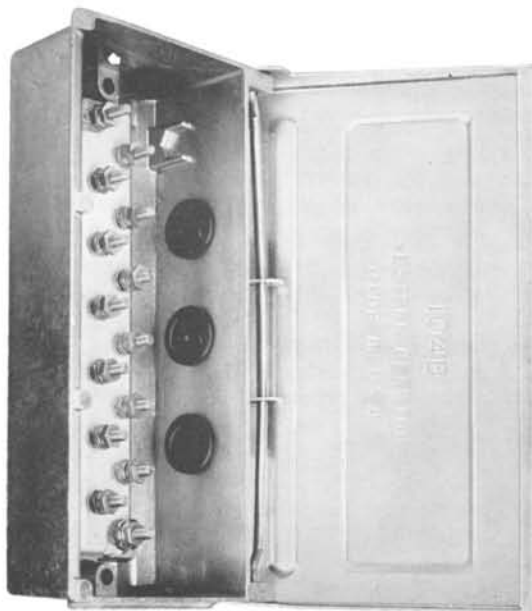

FIG. 2—104B WIRE TERMINAL
**3.02** The 104B wire terminal shown in Fig. 2 employs a mounting which is an aluminum die cast box, with a toggle-type cover similar to the cover on the 104A. It is equipped with a terminal block having facilities for connecting 6-pair multiple drop wire. Two binding posts, one at each end of the block, are strapped together internally and are used for signaling grounds.
**4.03 104B:** The 104B wire terminal can be mounted either horizontally or vertically. Two mounting holes are provided. (See Fig. 2.) Use No.